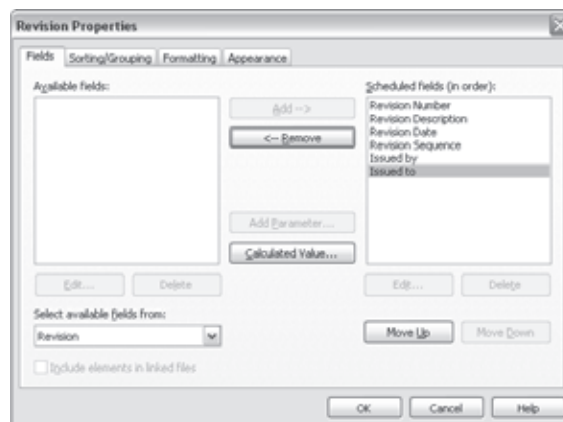

Figure 9.7
4. To modify the graphics and fields used in the revision schedule, right-click on the revision schedule in the Project Browser and click Properties. In the Fields parameter, you can use common fields such as Revision Number, Description, Date, and Issued To (Figure 9.7).